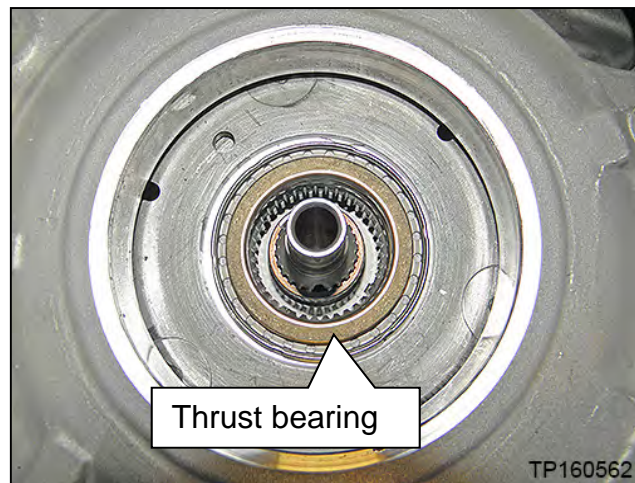

Figure 84
66. Remove the thrust bearing from the planetary carrier plate (Figure 84).